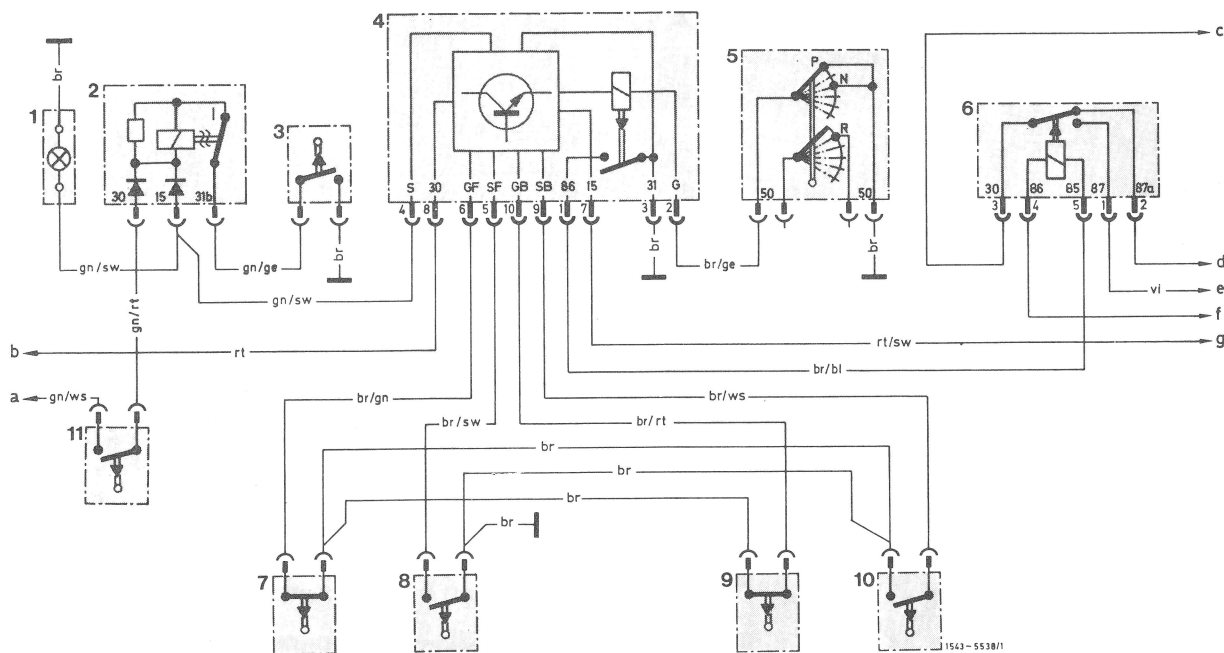

Fig. 5 Seat belt warning system with starter interlock
Each front seat contains a seat contact switch (8 and 10). See Fig. 5. "Electric Wiring Diagram". The seat contact switches are closed if the seat is occupied and will then connect the relay (4) to ground (seat-belt starter-logic) Terminal SF/SB.